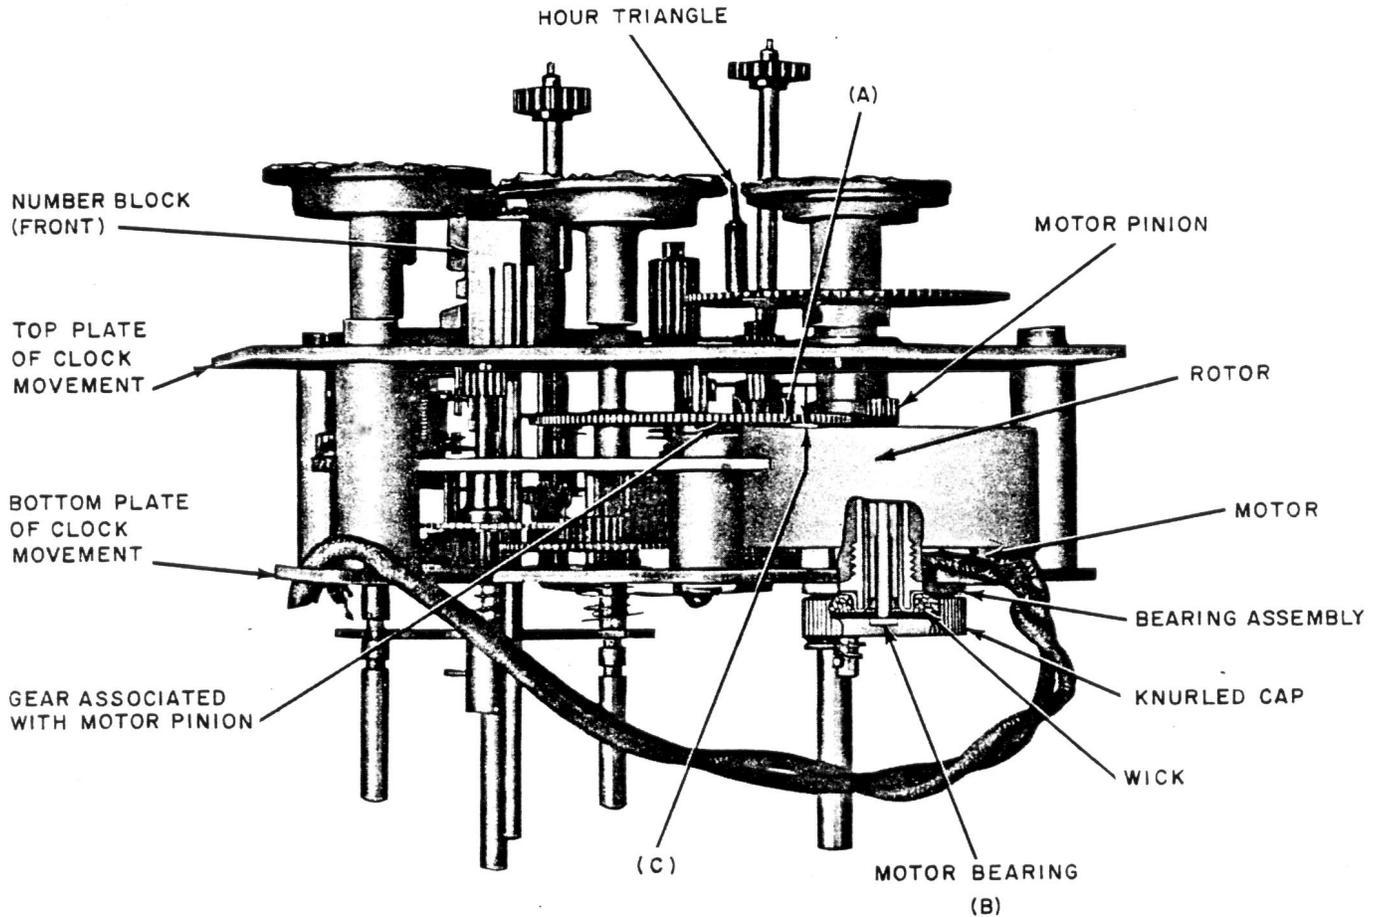

Fig. 5—Motor Mechanism
Four Teeth on Gear Associated With Motor Pinion—Fig. 5(A)
(c) Fig. 5(B)—The motor bearings shall be adequately lubricated with Calculagraph Synchronous Electric Motor Oil—30-134. When lubrication is necessary, two dips shall be applied.
*(c) Fig. 5(C)—With the motor shaft resting in its bearing, the gear associated with the motor shall not touch the hub of the pinion on the motor rotor.